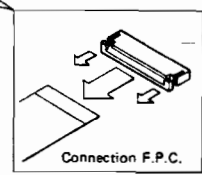

Fig. 14
6. Remove the magnet plate from the stator (Fig. 14).